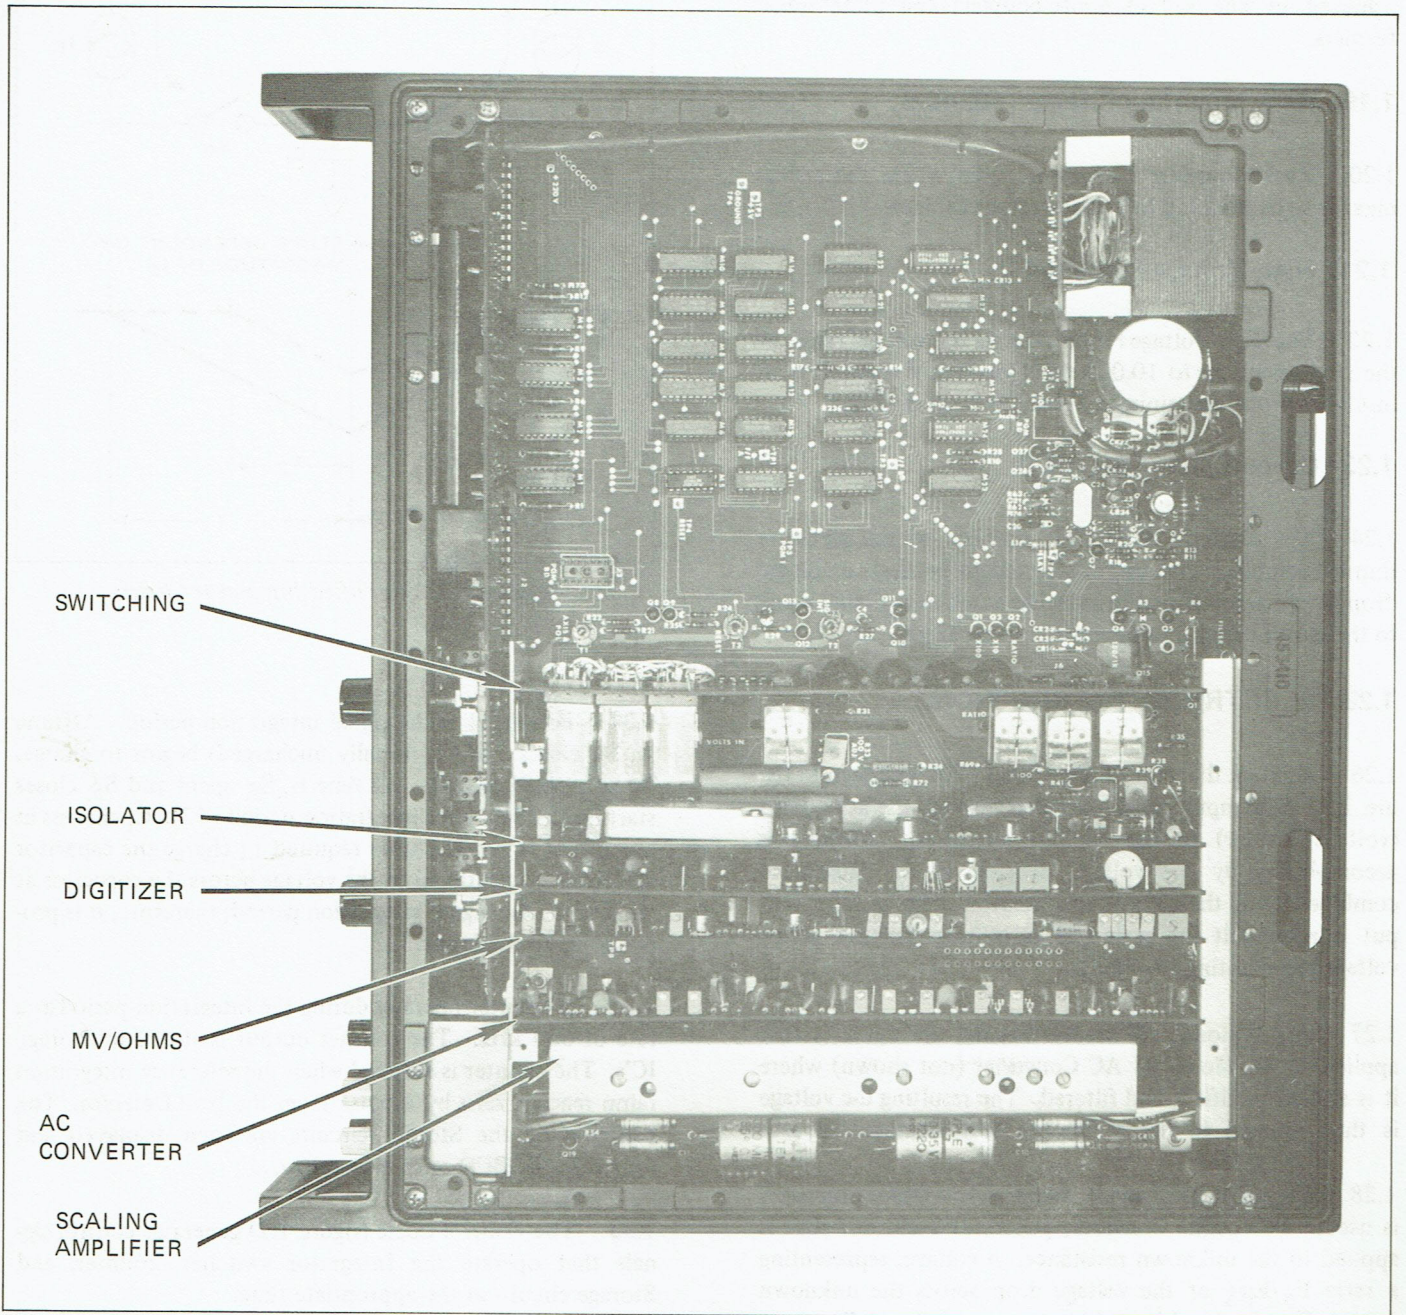

Figure 1.4 - Printed Circuit Board Locations
1.35 A top view of the Model 4800 is shown in figure 1.4. The instrument shown is equipped with optional accessories (PC Boards) for the measurement of Ohms and AC. The AC option consists of two boards: the AC Converter and the Scaling Amplifier. The accessory boards plus the Digitizer, Isolator, and Function Switching board all plug into the "motherboard" called the Logic and Interconnection assembly. This board also carries much of the instrument logic. Connectors on the motherboard are identified in the figure.